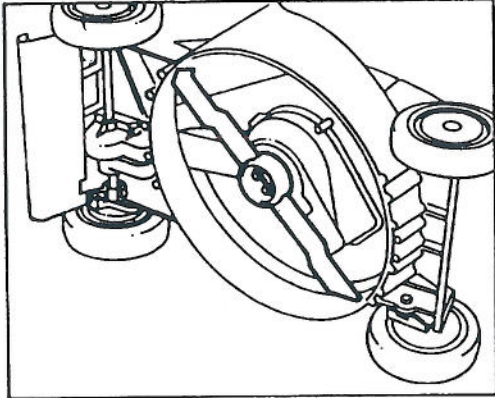

Figure 27
2. Tip mower on its left side (Fig. 27). Avoid rotating blade because starting problems may result.